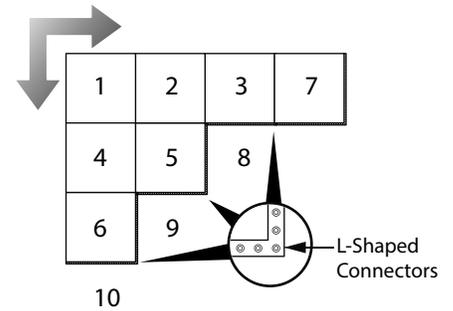

Figure 5
- 6) Always check and ensure that the grout is facing the same directions on each tile, accurately following the datum lines (Figure 5). It is also important to verify the pattern in the tile is going the direction the architect intended.